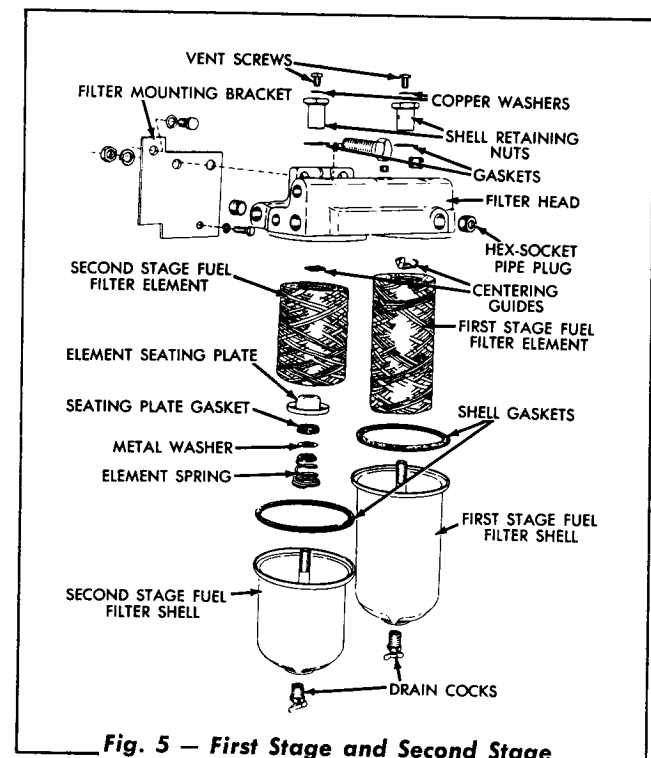

Fig. 5 — First Stage and Second Stage Fuel Filter Details
Loosen the vent screw (Fig. 5) located in the top of the second stage fuel filter shell retaining nut. Crank the engine with the starter. If fuel containing bubbles flows from around the vent screw, this indicates that air is being drawn into the system on the suction side of the fuel supply pump. Correct this condition by tightening any loose low pressure fuel line connections, first stage fuel filter connections, and the first stage fuel filter shell retaining nut (Fig. 5).
Loosen the vent screw (Fig. 5) in the top of the second stage fuel filter shell retaining nut and crank the engine with the starter. If a full flow of
1. Connect a fuel pressure gauge into the pressure side of the filter head Fig. 5. Start the engine and operate at approximately one-half throttle. Observe the fuel pressure gauge. The gauge should indicate a pressure of 5 to 15 P.S.I. If the gauge indicates a pressure below 5 P.S.I., stop the engine and disconnect the end of the fuel return hose from the front end of the filter head.
The first stage and the second stage fuel filters (Fig. 5) each contain a replacement type element. Sediment is collected by the first stage fuel filter and is prevented from entering the fuel supply pump. Any sediment passing through the first stage fuel filter and the fuel supply pump is collected by the second stage fuel filter and is prevented from entering the fuel injection pump. A drain cock is provided in the bottom of each fuel filter shell for draining water or sediment that is collected.